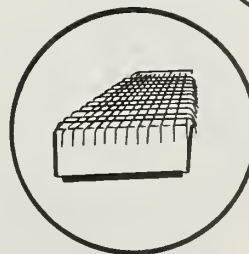

Fig. 3
4. Bend the ends of the wires. An easy way is to bend them over a block or edge of a ruler. (Fig. 3)